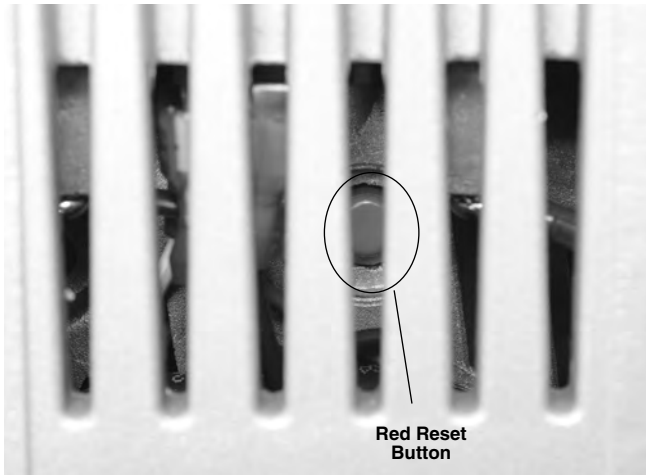

Figure 17 – Motor Reset Button
To reset the thermal overload, unplug machine and turn ON/OFF switch to the OFF (O) position and allow the motor to cool for 15 minutes. Use a thin, non-conductive probe to reach through the vent (*Figures 1 and 2*) to press the reset button (*Figure 17*).